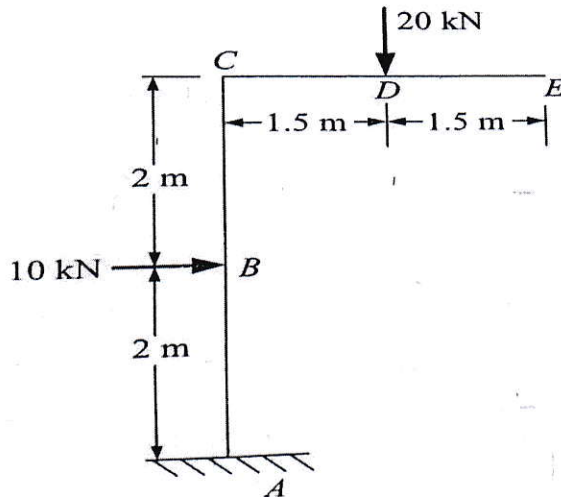

Fig. 7
4. Determine the vertical and the horizontal deflection at the free end of the bent shown in figure 7. Assume uniform flexural rigidity EI throughout. Use unit load method. 20